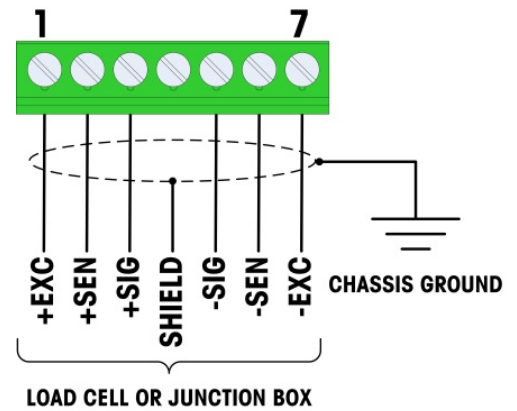

Figure 2-23: Load Cell Termination, Chassis Ground
Table 2-4 and Figure 2-23 show the terminal definitions for the analog load cell terminal strip. Note that when using four-wire load cells, jumpers must be placed between the +Excitation and +Sense terminals and between the –Excitation and –Sense terminals.
5. The ferrite supplied with the terminal is placed over the end of the cable, and the wires connected to the load cell connector. Connect the signal line to the terminal connector according to the signal definition, the IND231 sensor wire needs to be wound around a magnetic ring once. As shown in the following figure. Refer to the wire color code of the load cell being connected, and Figure 2-23.
7. Attach the load cell wires to the connector on the motherboard. Refer to the wire color code of the load cell being connected, and Figure 2-23. Connect the signal line to the terminal connector according to the signal definition.